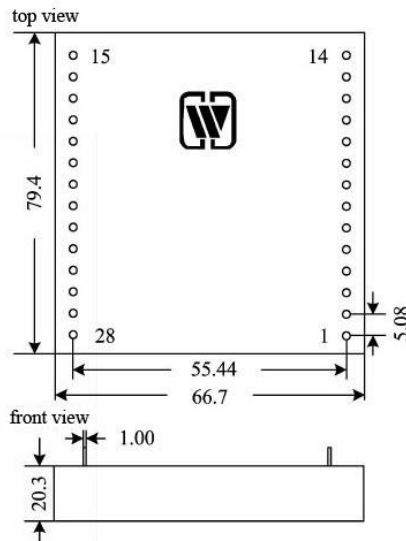

Fig. 7 Outside view and dimensions of package
- ① TR should not be blocked.
- ② The corresponding advance from reference input end to DSC shall conform to the provisions of TR.
- ③ The reference input must be always applied on TR and converter.
- ④ The output voltage of DSC/DRC must completely match with the voltage required by TR.
10. Package specifications (unit: mm) (Fig. 7)